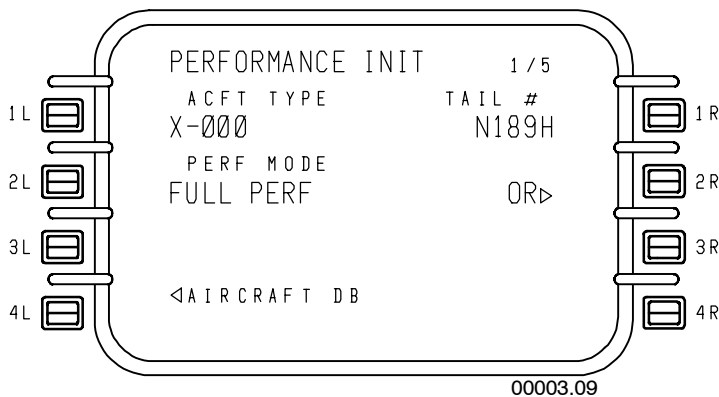

Figure 4-25
- **PERFORMANCE INIT 1/5** – Figure 4-25 displays the following: